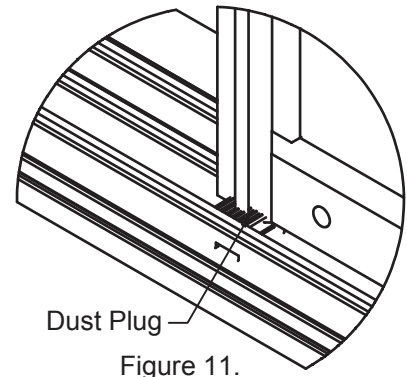

Figure 11.
**Step 17. (Dust Plug Installation)** Place the fin seal dust plug directly underneath each interlock at the head and sill ends (See Figure 11).